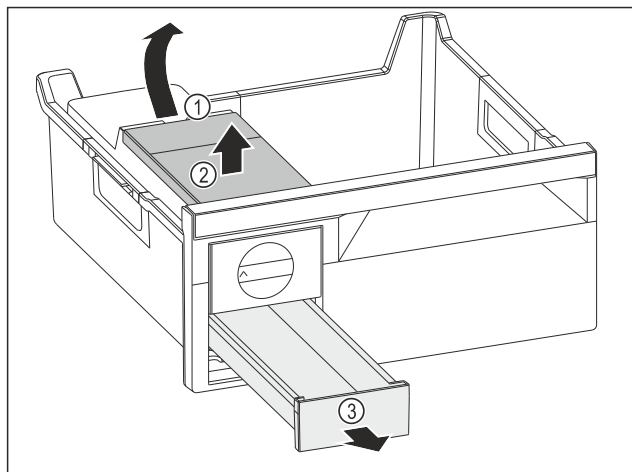

Fig. 130
- Removing the water tank: Lift the water tank by the recess Fig. 130 (1).
- Remove the water tank Fig. 130 (2) upwards.
- Remove the ice cube drawer Fig. 130 (3) to the front.